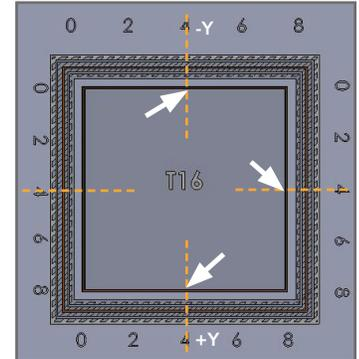

Figure 1: Measure at the center of each leg. (Step B.1)
- A. Measure at the center of all 4 sides of the support layer box (figure 1).